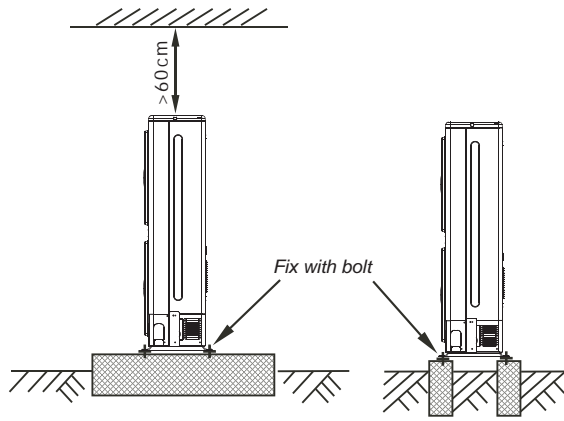

Fig.3-6
- Make concrete foundation according to the specifications of the outdoor units. (refer to Fig.3-6)
- Fasten the feet of this unit with bolts firmly to prevent it from collapsing in case of earthquake or strong wind. (refer to Fig.3-6)